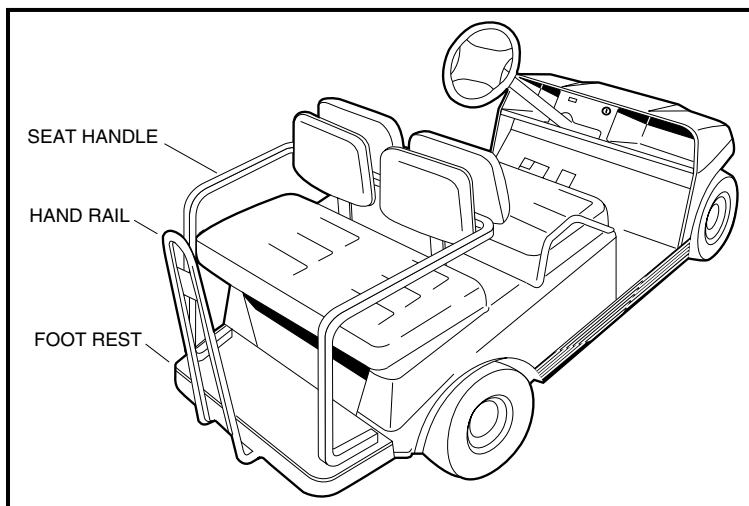

FIGURE 27
- PASSENGERS SHOULD HOLD ON TO SEAT HANDLES OR HAND RAILS AT ALL TIMES (SEE FIGURE 27). DRIVER SHOULD KEEP BOTH HANDS ON THE STEERING WHEEL WHILE VEHICLE IS MOVING.